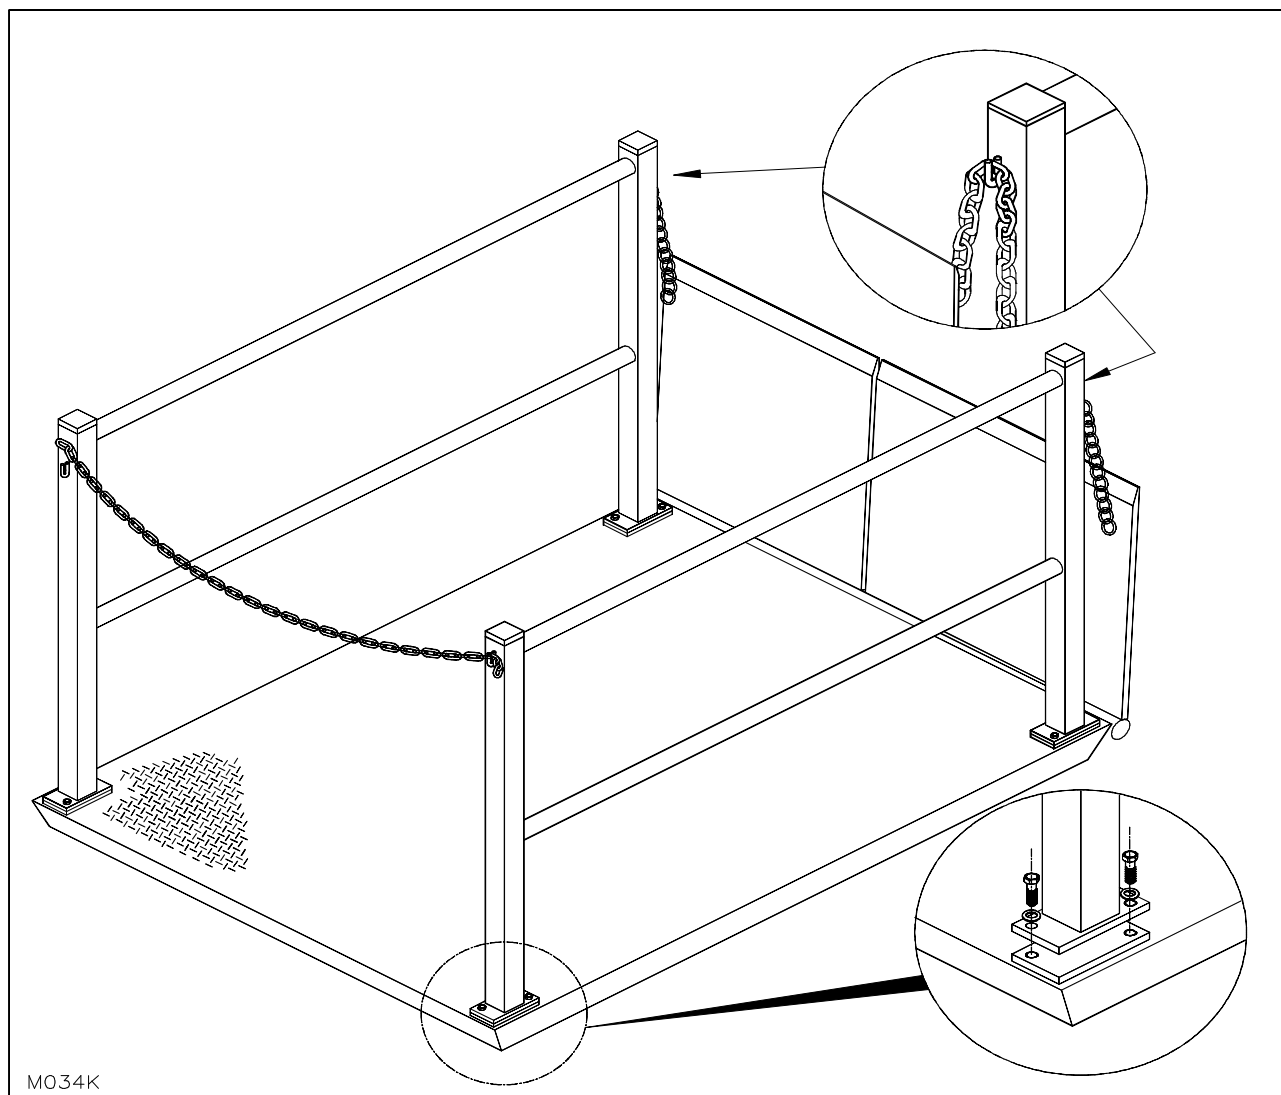

Figure 7: Guard Rail Installation
17. Install the guard rails as shown in "Figure 7: Guard Rail Installation" on page 15. In some applications such as full depth pits, platform mounted guard rails can create a potentially hazardous condition by creating a pinch point between the guard rail horizontal bars and the edge of the pit floor. It may be necessary to provide protection around the perimeter of the pit. Consult applicable safety and building codes.